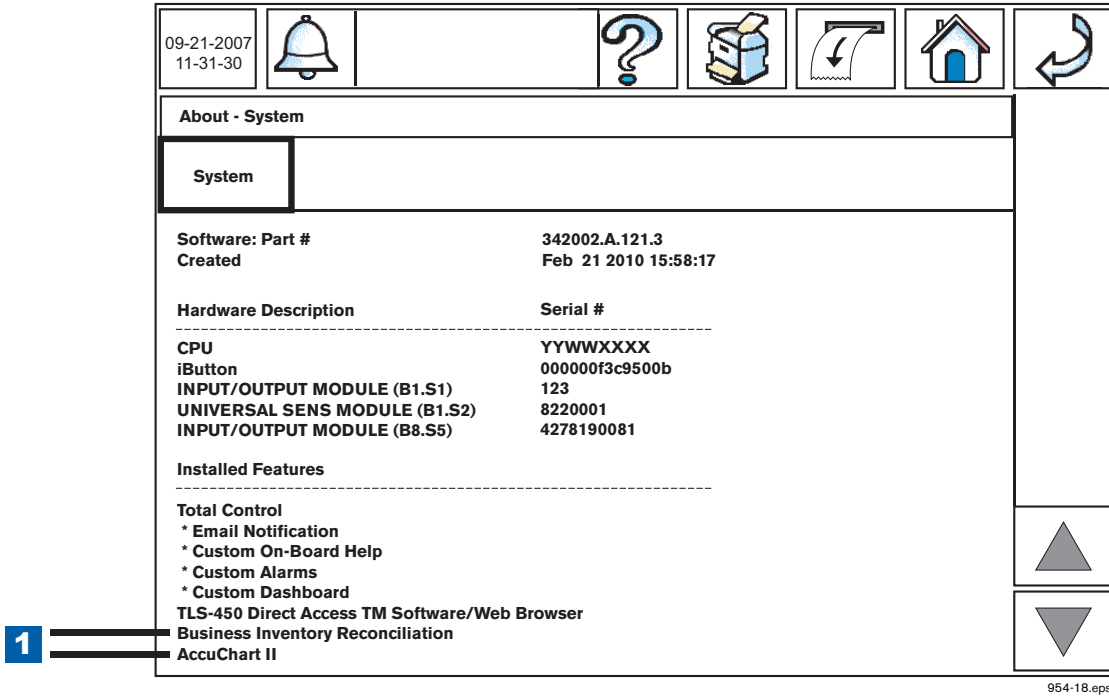

Figure 13. Verifying Installed Software Features
- Verify that the features you installed are listed in the About screen's feature list (see example in Figure 13).
LEGEND FOR NUMBERED BOXES IN Figure 13